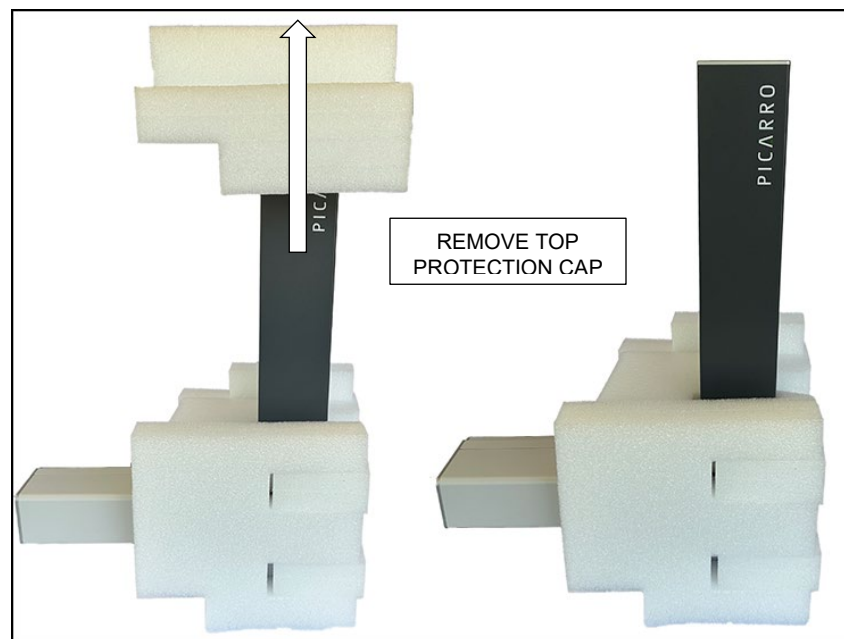

Figure 5: Assembly Instructions/Protection Cap Removal #1
3. Remove the top protection cap. For more information, see Figure 5.